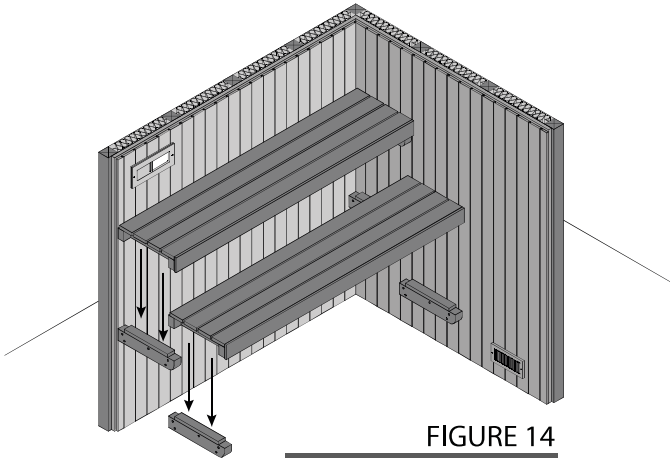

FIGURE 14
2.-The bench matches with the bench cleat and is placed on top of it. To secure it to the wall, use screws and a drill. This ensures proper alignment and stability, providing a sturdy surface for seating. (See figures 14 and 15).